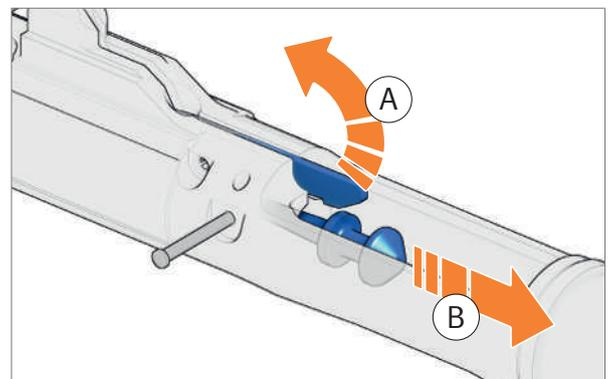

Fig. 100: Remove firing pin and pressure spring for firing pin
5. Lift firing pin safety (Fig. 100).
6. Remove firing pin and pressure spring for firing pin to the rear from bolt head carrier (Fig. 100).